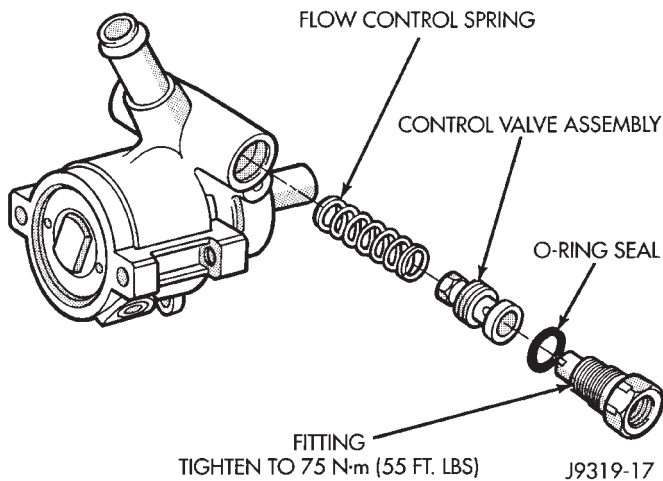

Fig. 10 Flow Control Valve Fitting
(1) Clean area around fitting to prevent dirt from entering pump. Remove pressure hose from pump fitting.
(2) Remove fitting from pump housing (Fig. 10). **Prevent flow control valve and spring from sliding out of housing bore.**
- (1) If necessary, clean and install flow control valve and spring in pump housing bore. **Be sure the hex nut end of the valve is facing in toward pump.**
- (2) Install O-ring seal onto fitting (Fig. 10).
- (3) Install flow control valve in pump housing and tighten to 75 N·m (55 ft. lbs.) torque.
- (4) Install pressure hose to valve.